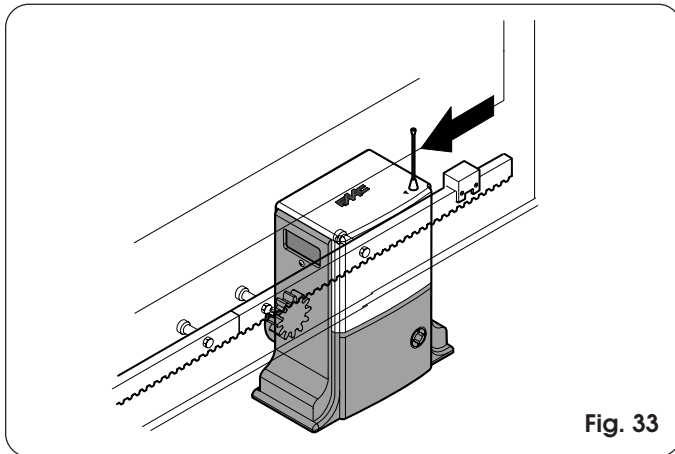

Fig. 33
- Slide the magnet on the rack (Fig. 33) until you see that LED1 on the control board goes off (Fig. 31).